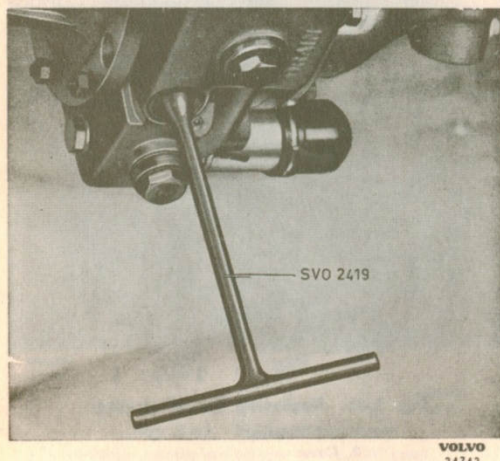
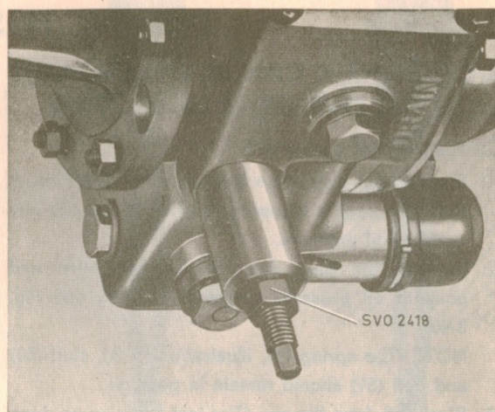

Fig. 3-43. Removing the valve seating, oil pump
Fig. 3-44. Removing the oil pump
2. Remove the plug and take out the spring (8) and ball (6). Remove the valve seating (7) with key SVO 2419, see Fig. 3-43. Clean and check the parts.
4. The pump is removed in the following manner: Unscrew the bolt which holds the pump through the hole in the extension piece (56). Screw puller SVO 2418 into the place of the valve seating and pull out the pump, see Fig. 3-44. Disassemble and check the various parts of the pump.
8. Remove the plugs and take out the parts for the control valve, reducing valve and outlet valve for the pump. Remove the locking screw and take out the oil pump. If the pump does not come out, remove the valve seating with key SVO 2419, see Fig. 3-43. Then pull the pump out with puller SVO 2418, see Fig. 3-44.